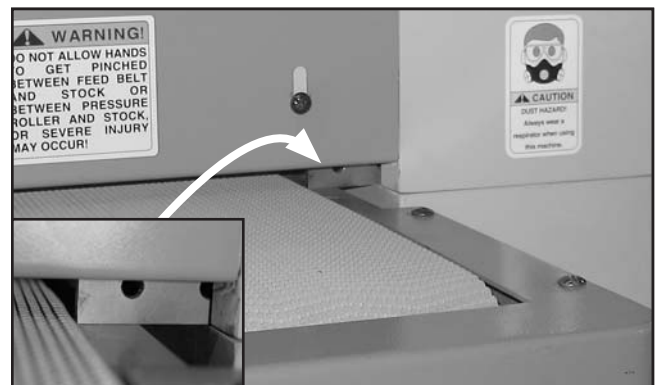

Figure 56. Straightedge flush with front right corner of frame and table.
2. Raise the metal edge of the table so it is nearly level with the interior surface of the frame, then place a small straightedge at the front right corner of the frame so it overlaps the table edge, as shown in Figures 56–57.